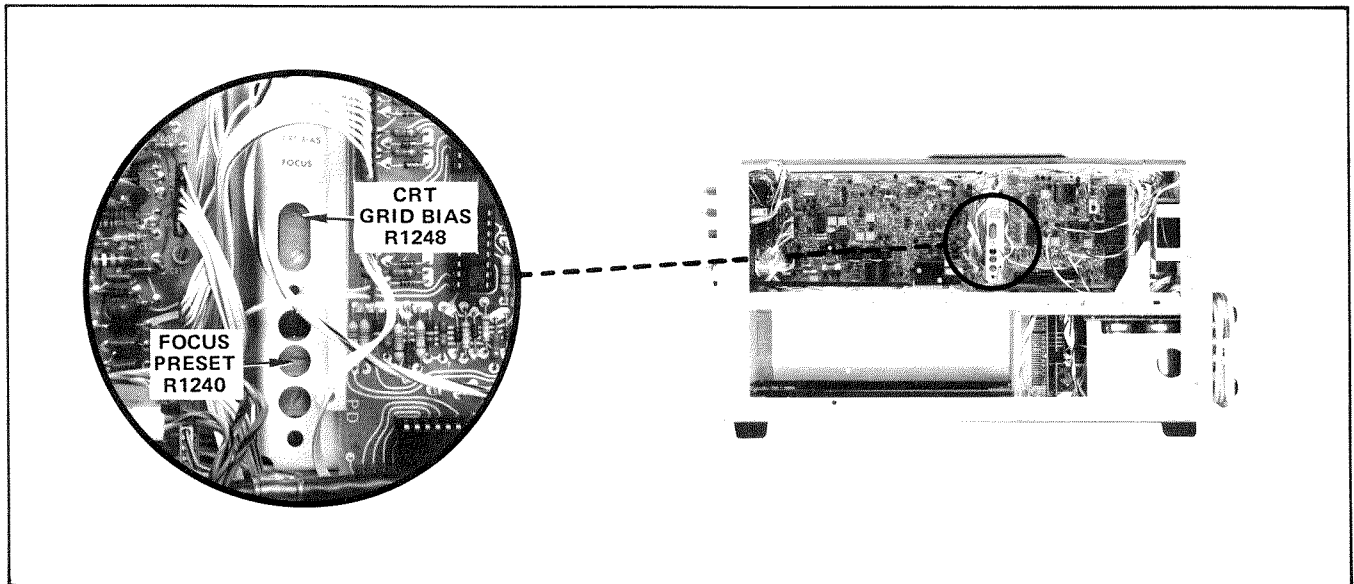

Figure 5-4. Location of adjustments in High-Voltage cover.
- f. ADJUST—CRT Grid Bias adjustment R1248 (see Figure 5-4) until the trace on the 7623A just disappears.
- f. ADJUST—Focus Preset R1242 (see Figure 5-4) and Astigmatism adjustment R1274 (see Figure 8-18) for the best overall focus.